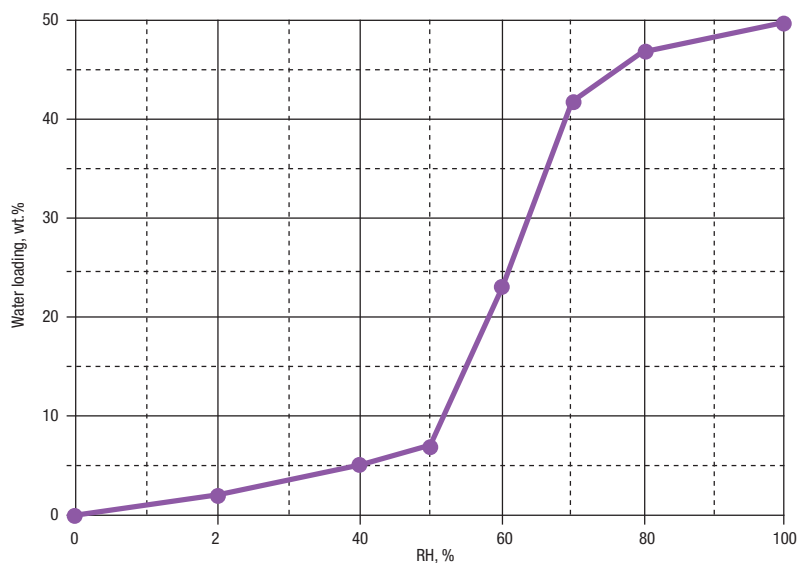

FIGURE 3. This water adsorption isotherm for activated carbon shows the effect of relative humidity (RH) on the adsorption performance
to preferentially adsorb water from the air, which occupies adsorptive sites and reduces the efficiency and capacity of the carbon. The water adsorption isotherm for activated carbon (Figure 3) shows that as long as the relative humidity (RH) of the airstream remains below 50–55%, the carbon performance should not be affected. The carbon will equilibrate with the moisture content of the air. However, this can produce periods of much lower performance for a great number of contaminants. This is especially so when the carbon is used to clean outdoor air.